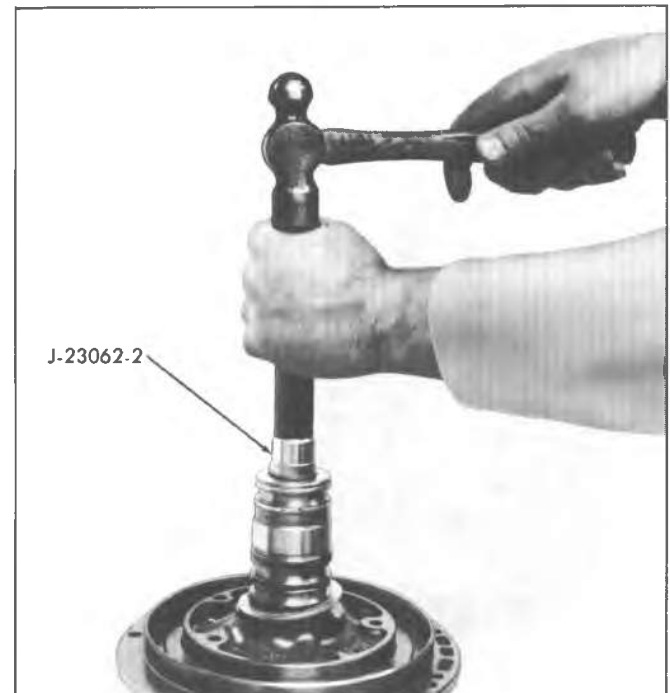

Fig. 7A-102B--Installing Inner and Outer Stator Shaft Bushing
With stator shaft properly supported, remove front bushing (fig. 7A-102B). Place tool J-21424-7 and drive handle J-8092 with extension J-21465-13 through front of stator shaft and drive out two (2) rear bushings. Using tool J-23062-2 and extension J-21465-13, install inner bushing to approximately $1\text{-}5/32$ " below front face and outer bushing $3/32$ " below front face (fig. 7A-102B). Install new front bushing (fig. 7A-101B).